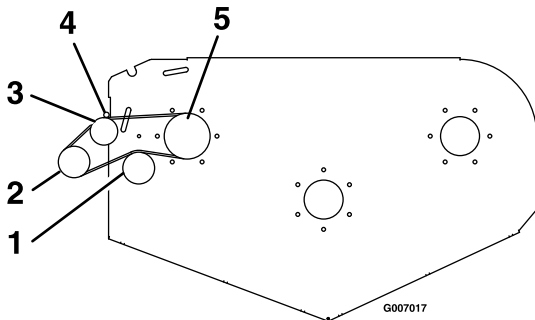

Figure 16
- B. Pull the spring loaded idler release handle back and install the belt in the upper groove of the top spindle sheave. The belt should be routed as shown in Figure 16.